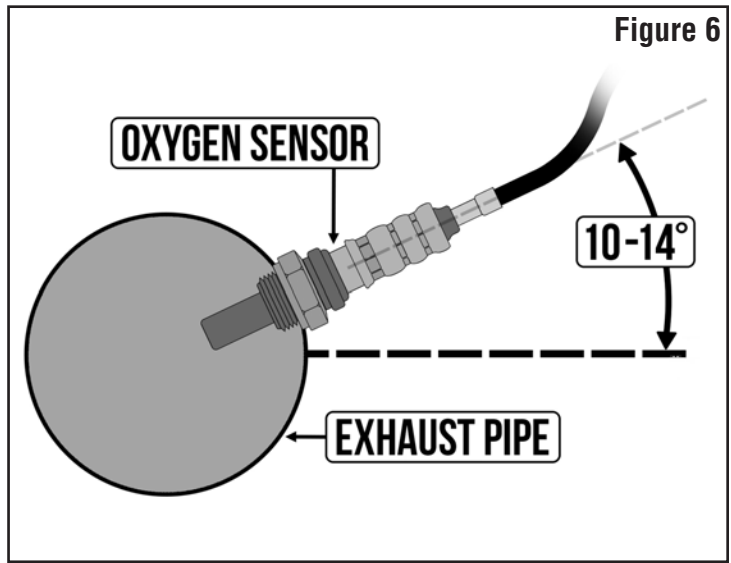

Figure 6
4. The sensor should be between 10° to 14° above horizontal (see figure 6 below) to allow condensation to run off. If this is not adhered to, the sensor is susceptible to damage.